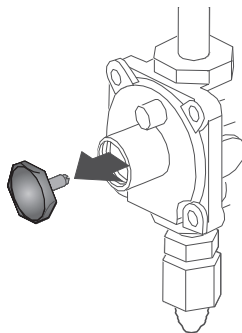

Figure 9
- 3** Unscrew the regulator cap with a wrench (see Figure 9).